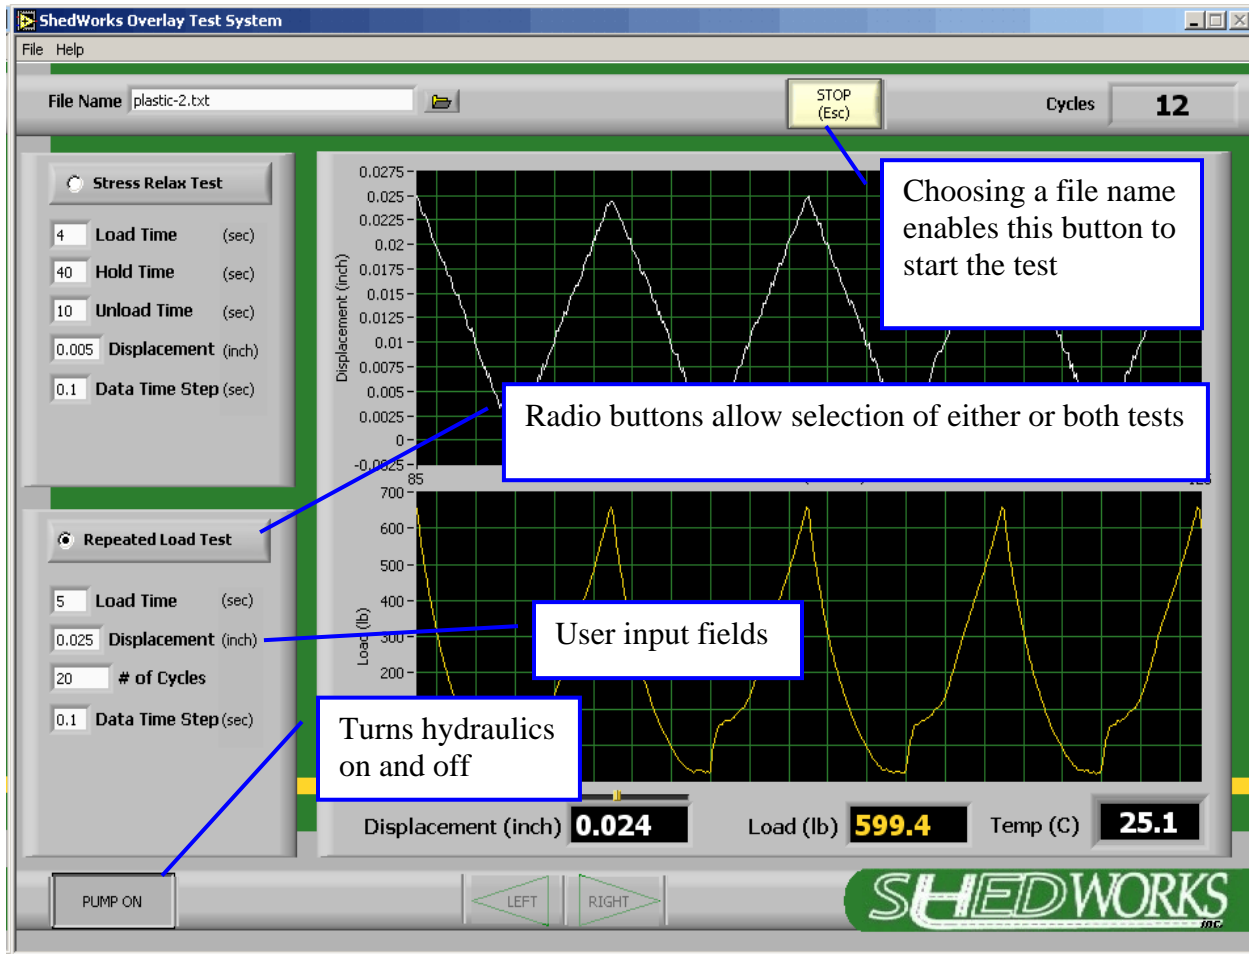

Figure 10. Main Software Screen.
4. Select the desired test(s), enter the desired control parameters, specify a file name, and begin the test. Active buttons have dark lettering. The Begin button is not active until a file name is specified. The Pump button toggles the hydraulic pump on and off. The radio buttons on Stress Relax Test and Repeated Load (displacement) Test (Figure 10) are independent so that either one or both of these tests may be specified. When the Begin button is pushed, the selected test or tests will automatically be performed in sequence.